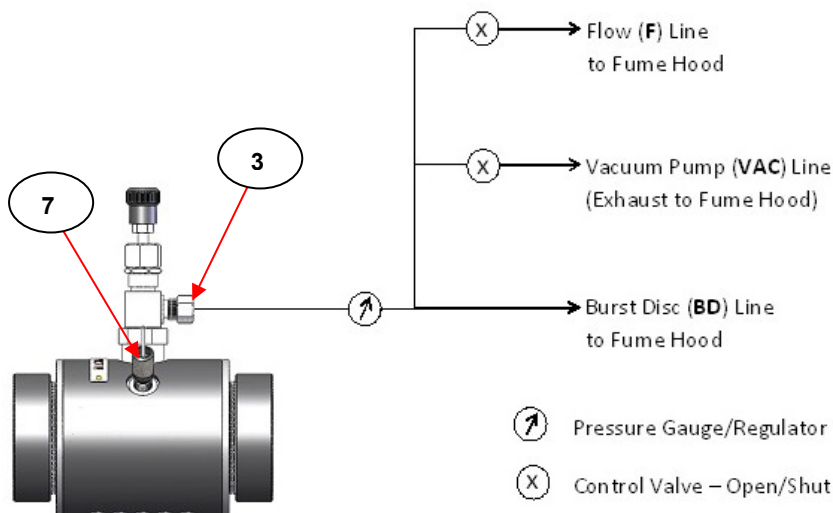

Fig 2. Schematic for Suggested Vacuum/ Gas Line Connectivity for Safe operation of the Storm 10H Heated Gas Cell
to prevent any accidental damage to the windows that have been fitted or compromising of the sealing from the window end cap assemblies. A suggested schematic for plumbing of a safety pressure device gas flow line, vacuum line and an additional “vent off” gas flow line to the vacuum valve assembly (3) connection is seen as **Fig 2**.
As shown in the schematic at **Fig 2**, a single tubing connection is made to the Storm™ 10H Heated Gas Cell vacuum valve assembly (3) via 1/8" O.D. tubing, but this tubing connection branches to three separate line connections. One line is open all the time (no shut off tap/valve) to a pressure safety burst disc device (**BD** line). A second line with an open/shut valve tap runs to a vacuum pump system (**VAC** line) and the third line with its own open/shut valve tap operates as an independent flow line (**F** line), if switched open. Both the safety device (**BD**) line and additional (**F**) line are routed to terminate in a safe containment area
out. If any valve fitted for the gas inlet flow tube (12) is shut for introduction of gas, then the Gas Cell body (2) chamber can be evacuated by setting and switching of the (VAC) line capability from the suggested schematic at **Fig 2**. (Opening of valve tap (3) and (VAC) line valve tap). When the cell chamber has been evacuated, close the valve tap (3) and open the inlet flow tube (12) valve to allow for a gas to fill the Gas Cell body (2) chamber for **a static mode of operation**. The Gas Cell can additionally be heated once a gas has been introduced and the gas vapour itself can be measured for its temperature via the fitted monitoring thermocouple (14).